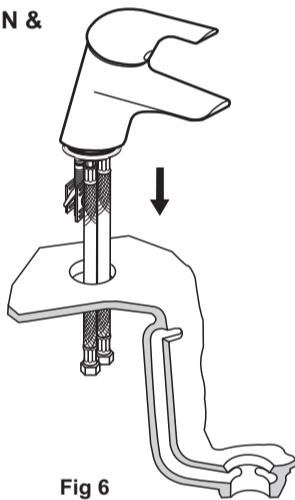

Fig 6
- Hold the fixation bracket in the vertical position and place through the tap hole ensuring that the sealing washer remains above the platform as this acts as a watertight seal between the two surfaces, (Fig 6).